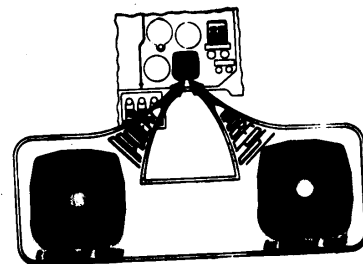

Fig.2. Check before flight how the fuel consumption indicator readings correspond to fuel quantity.
25. Check that the fuel consumption indicator scale corresponds to the fuel amount. The fuel consumption indicator will read 2400 lb if the tanks in the full are full up. If the drop tanks are available the fuel consumption indicator will show due to their filling. The fuel indicator should read "14001" (Fig.2.)